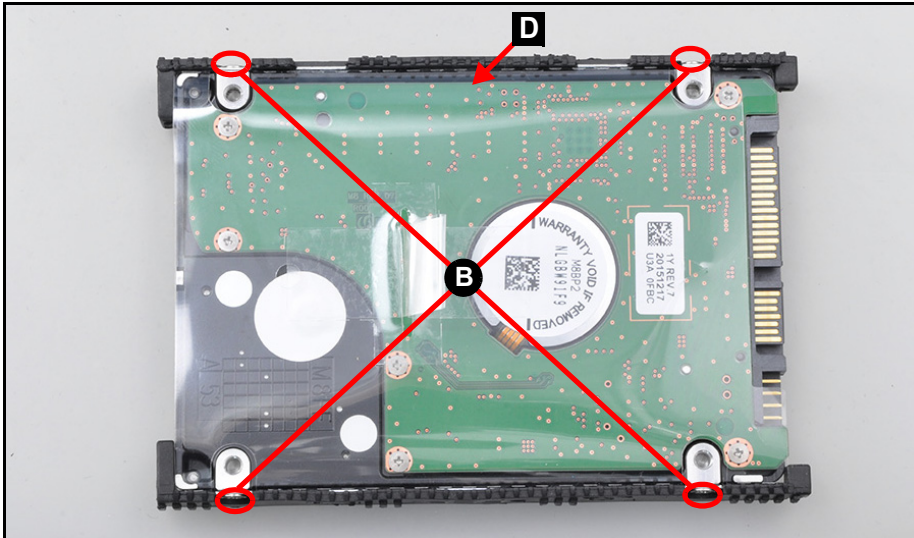

Figure 3-116. Replacing the HDD Brackets with Mylar
1. Place the HDD brackets with mylar (D) on top of the HDD (Figure 3-116).
2. Install and secure four (4) screws (B) to the HDD brackets (Figure 3-116).